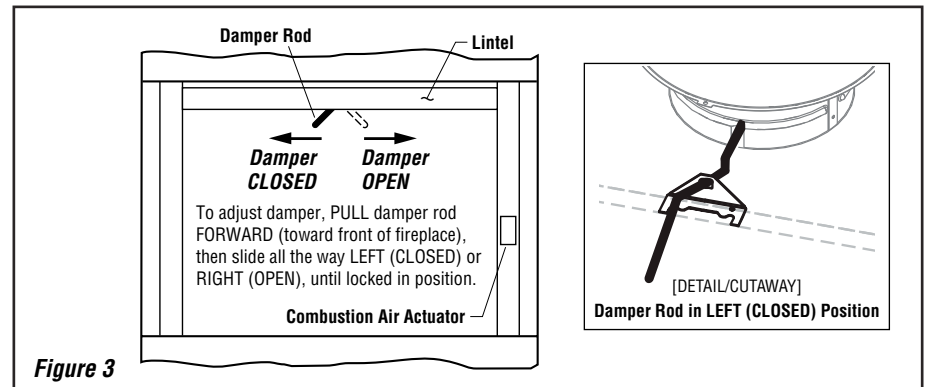

Figure 3
Check the operation of the damper. The damper is controlled through the use of a damper pin inside the top center of the firebox opening, behind the lintel (**Figure 3**).
Step 1. Before continuing, check the operation of the damper, as described on page 4, (refer to Figure 3).